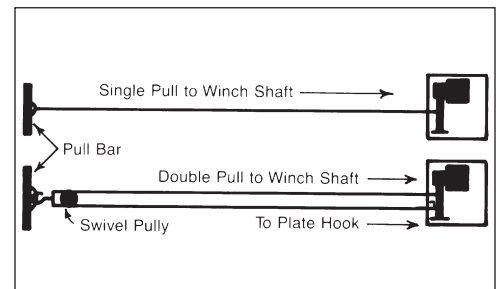

FIG. 10
Single pull will remove approximately 20 ft/min. Double pull will remove approximately 12 ft/min. If machine seems bogged down when pulling on single pull, immediately shut off machine and switch to a double pull (Figure 10).
4. See Figures 10 and 10.1 for double pull instructions.
6. If strength of carpet does not allow 6 foot width to be pulled without breaking the carpet or stalling the machine, cut carpet into smaller widths or convert from single to double pull mode (Figure 10).